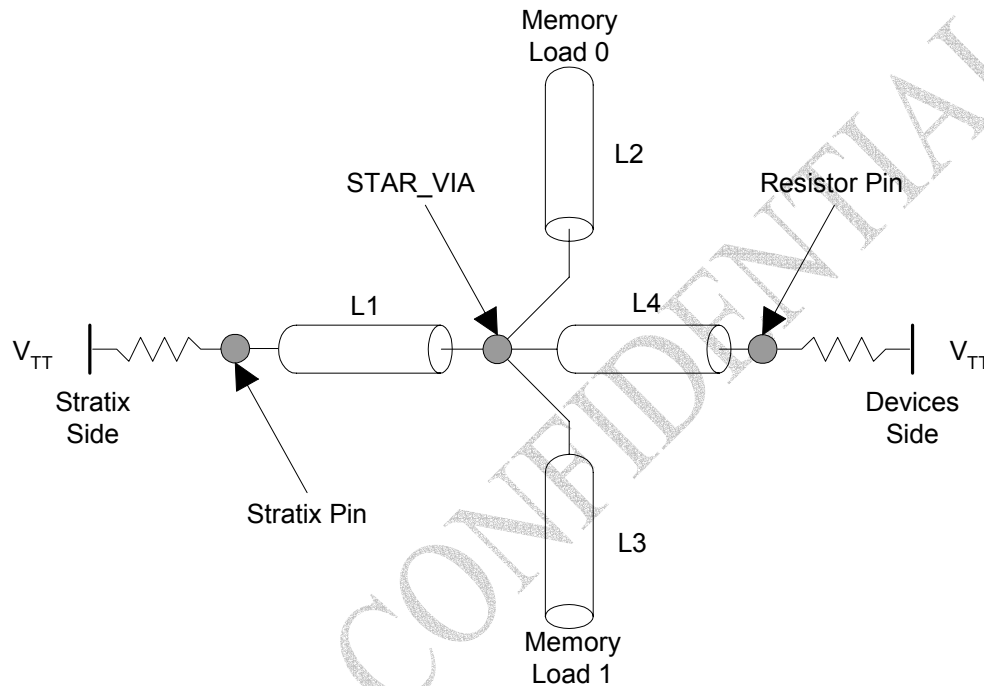

Figure 4-4
11. Within a given Y-shaped connection as described in the previous rule there must be some symmetry and matching within stubs in these traces. These stubs are shown in Figure 4-4 below. In this case the leg L1 should be a majority of the trace. Legs L2 and L3 should be matched within +/- 0.030 inches. The length rule for matching within a group (read group or write group) is NOT the total length of this trace. It is the length of EITHER L1 and L2 or L1 and L3. The connection in the center where all four stubs come together should be routed as shown below (not a 90-degree connection but a 45 degree connection). Leg L4 should be less than 0.750 inches.